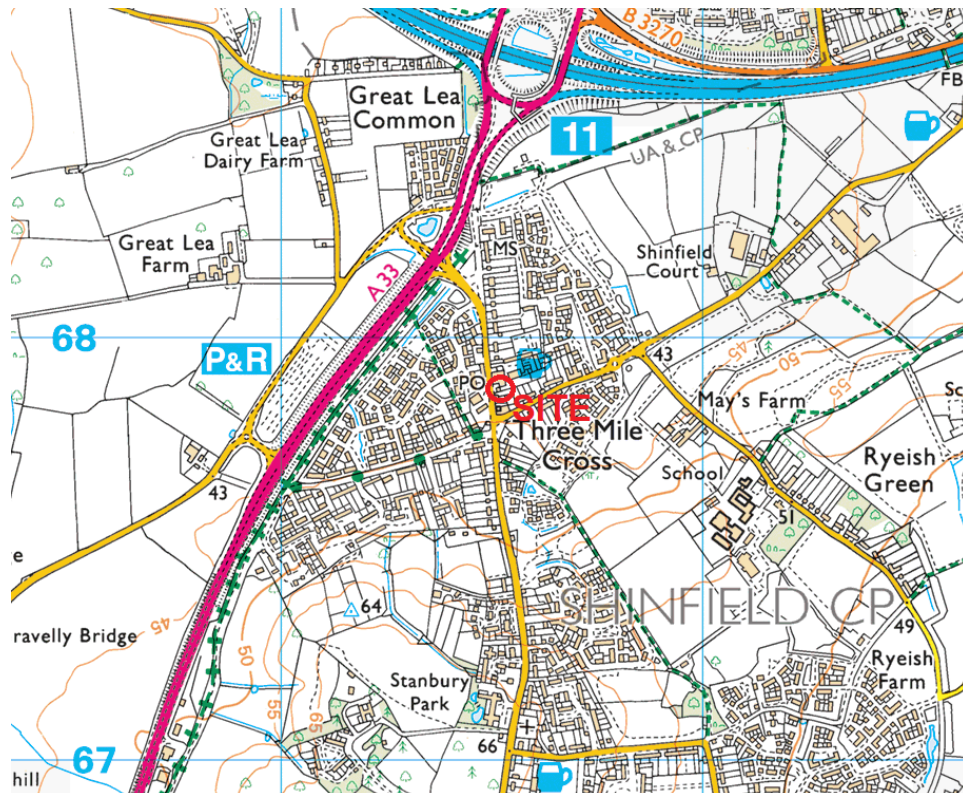

Figure 1.1 – Site Location
- 1.1.1 Lanmor Consulting Ltd has been appointed to prepare a Drainage / SuDS Strategy for the proposed development at The Swan, Basingstoke Road, Three Mile Cross, Reading, RG7 1AT. Figure 1.1 below shows the location of the site.